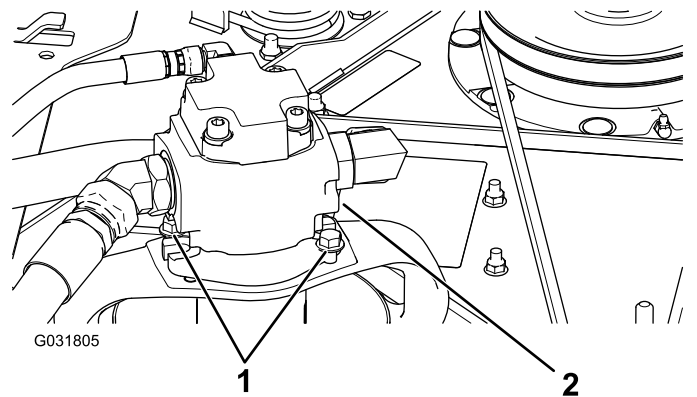

Figure 125
5. Remove the bolts securing the hydraulic motor to the cutting unit (Figure 125).
- Remove the bolts securing the hydraulic motor to the cutting unit (Figure 125).